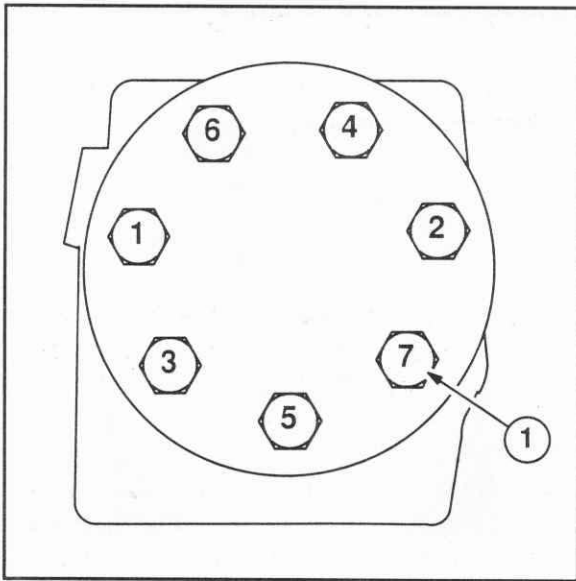

Figure 7-44
19. Install the end plate in position. Align the bolt holes and install the bolts. Note the position of the pin bolt. Tighten the bolts in two steps, first to 8 ft. lbs. (10.8 N·m) and then to 21 ft. lbs. (28.4 N·m) in sequence, as shown in Figure 7-44.